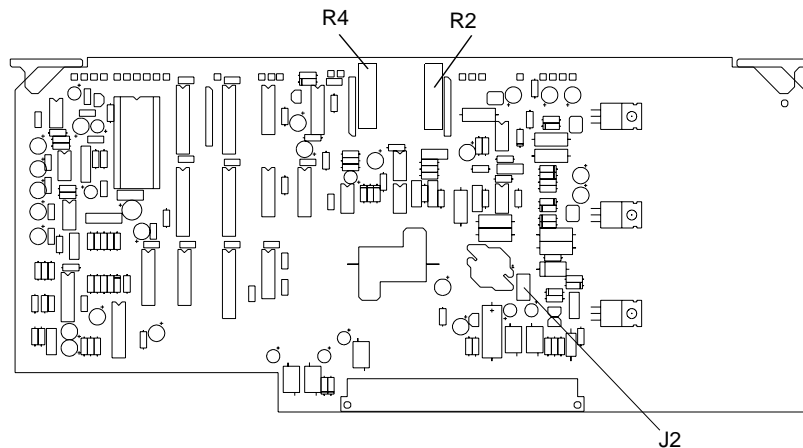

Figure 6-4. A5 PCB Adjustments
- Confirm that jumper J2 is positioned per table at left. (See Figure 6-4 for jumper location.)
- Adjust A5R4 (Figure 6-4) for a counter reading that is 200 MHz ±10 MHz below the band start frequency of the model being tested (see table at left).
- Adjust A5R2 (Figure 6-4) for a counter reading that is $200\text{ MHz} \pm 10\text{ MHz}$ above the band stop frequency of the unit. (These values are listed at left.)